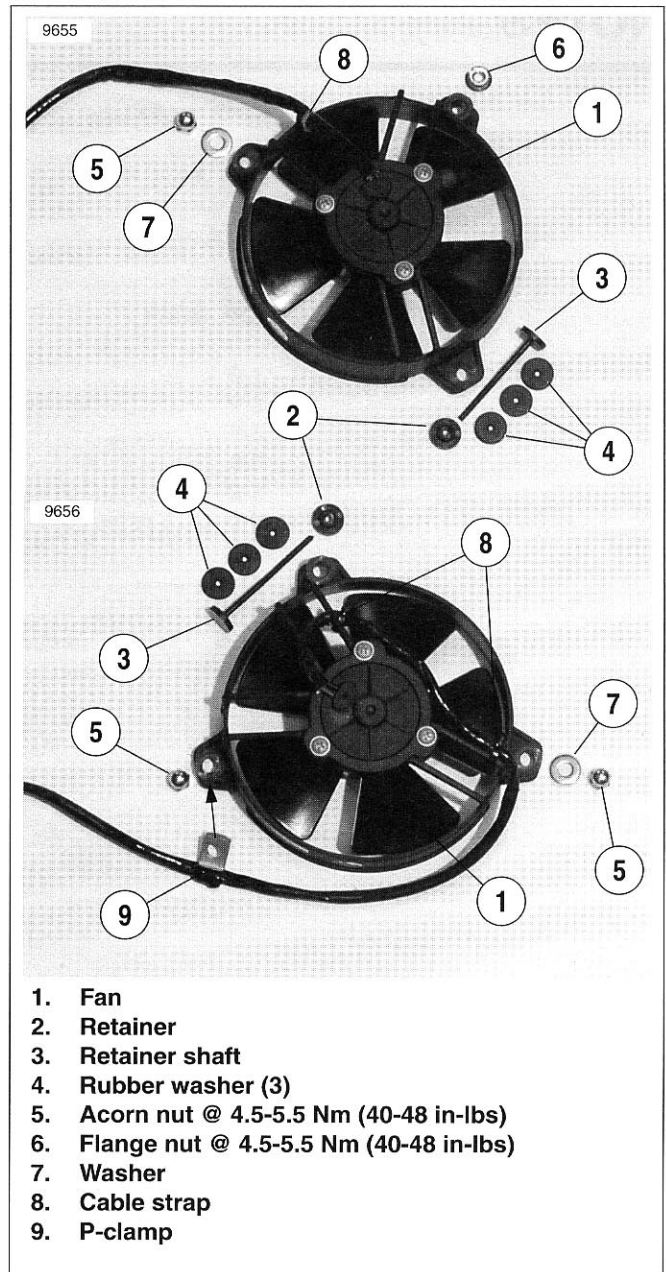
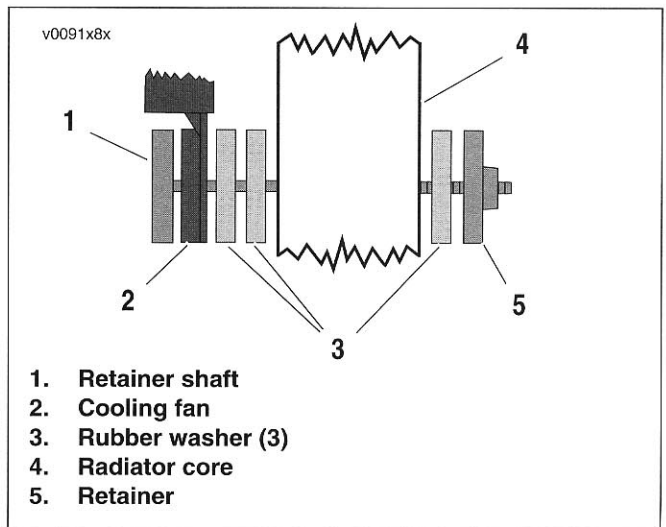

Figure 8-44. Cooling Fan Orientation and Mounting
Figure 8-45. Retainer Assembly
Cooling fans are identical with the exception of the location of cable straps securing wiring harness to cooling fan. Note location(s) of cable strap(s) (8) in Figure 8-44. When installing **new** cooling fan (1), secure wiring harness to cooling fan with cable strap(s) in same location(s), routing harness appropriately.
1. See Figure 8-44. Note orientation of cooling fans and locations of mounting hardware and cable straps. Mount cooling fan.
- a. Note location of retainer assembly. See Figure 8-45. Pass **new** retainer shaft (1) through mounting hole in cooling fan (2).
- b. Slide two rubber washers (3) on retainer shaft.
- c. Carefully push retainer shaft through opening in cooling fins in radiator core (4).
- d. Install one rubber washer (3) on retainer shaft.
- e. Press retainer (5) on retainer shaft so entire assembly is a snug fit.
- g. See Figure 8-44. To mount top fan, install acorn nut (5), washer (7) and flange nut (6). To mount bottom fan, install P-clamp (9), acorn nuts (5) and washer (7). Tighten nuts to 4.5-5.5 Nm (40-48 **in-lbs**).